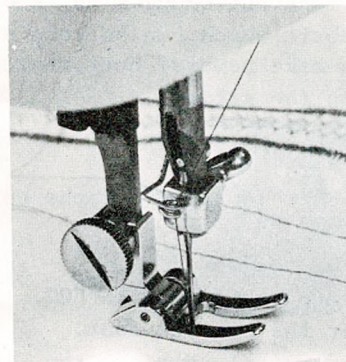

Fig. 25
- 4.- Replace presser foot with buttonhole foot, (Fig. 25), which provides maximum visibility and allows closely spaced stitches.